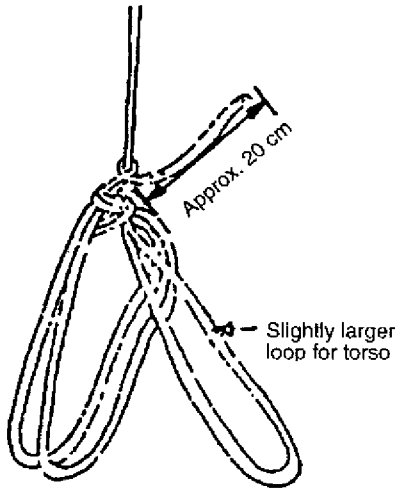

Fig. 3-53-2
- (b) Take the folded rope end, and leaving about 20 centimeters, form a double bowline on a bight. In this case, make the last loop (torso sling) slightly larger than the other two loops. (Fig. 3-53-2)